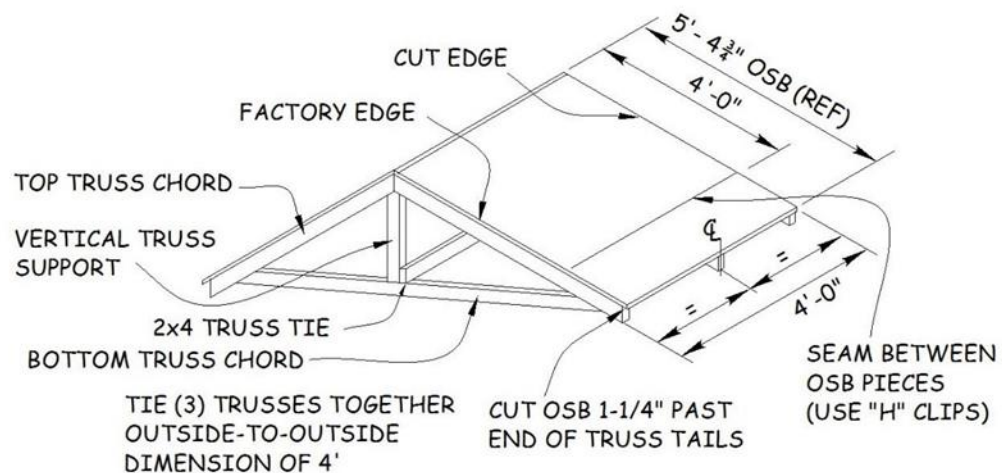

Figure 22-9. Shed Truss Component Assembly.
3. Cut two pieces of 2x4 exactly 4' long to create "truss ties". Set three trusses on their tails. Set one of the 4' truss ties on edge on top of the bottom truss chord and tight to the vertical truss support (see Figure 22-9). Position the truss tie flush to the outside edges of the two end trusses. Secure the truss tie to the two vertical truss supports on the end truss braces with two $\frac{31}{4}$ " collated nails for each truss. Center the middle truss 24" from the outside edges of the end trusses and nail the truss tie to the vertical truss support with two $\frac{31}{4}$ " collated nails.
NOTE: Aligning the cut edge with the sheathed end truss chord (See Figure 22-9) ensures the proper orientation of the OSB for roof strength.